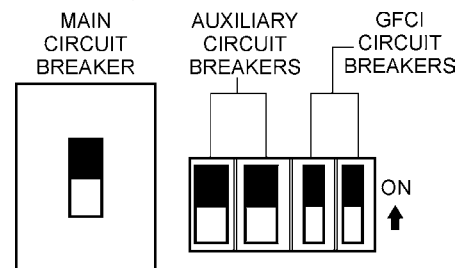

Figure 44. Main, Aux. and GFCI Circuit Breakers (ON)
10. Place the **main, GFCI, and aux.** circuit breakers in the **ON** position (Figure 44).